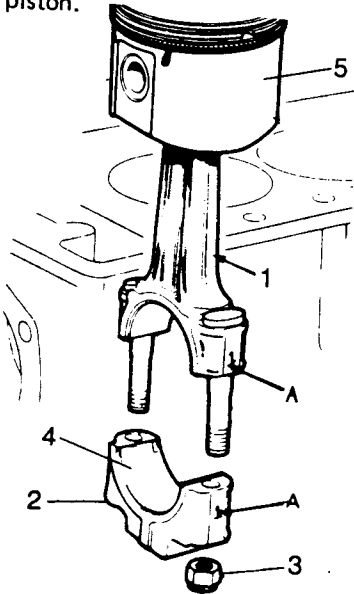

Fig B4.49
- (6) Refer to Fig B4.49. Mark each piston by number in its forward position.
- (7) Mark the connecting rods (1) and caps (2) so that they may be assembled in their correct order ('A' in Fig B4.49).
- (8) Remove nuts (3).
- (9) Remove the connecting rod caps (2) and bearings (4).
- (10) Remove the pistons (5) and connecting rods (1) out through top.
- (11) Temporarily refit the connecting rod caps and bearing shells to their respective rods.